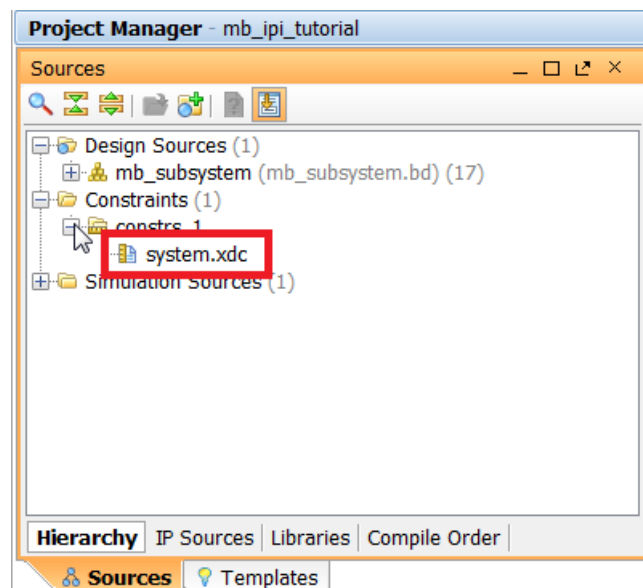

Figure 128: Local Constraints File
The file specifies the local constraints for some of the ports created in the block diagram (Figure 128).
1. In the **Project Manager**, double-click the design name under Design Sources to open the design (Figure 128).